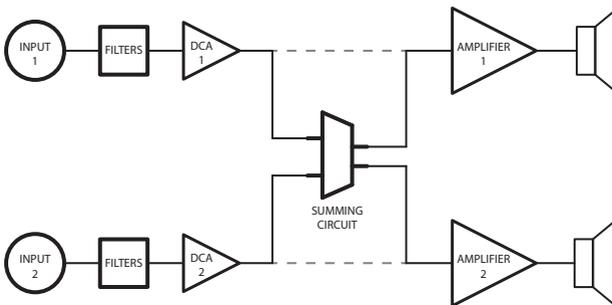

Figure 1.07 (Summed Mode)
7. Summing Mode (Figure 1.07) mixes both input channels together, and channel gains are individually controllable.